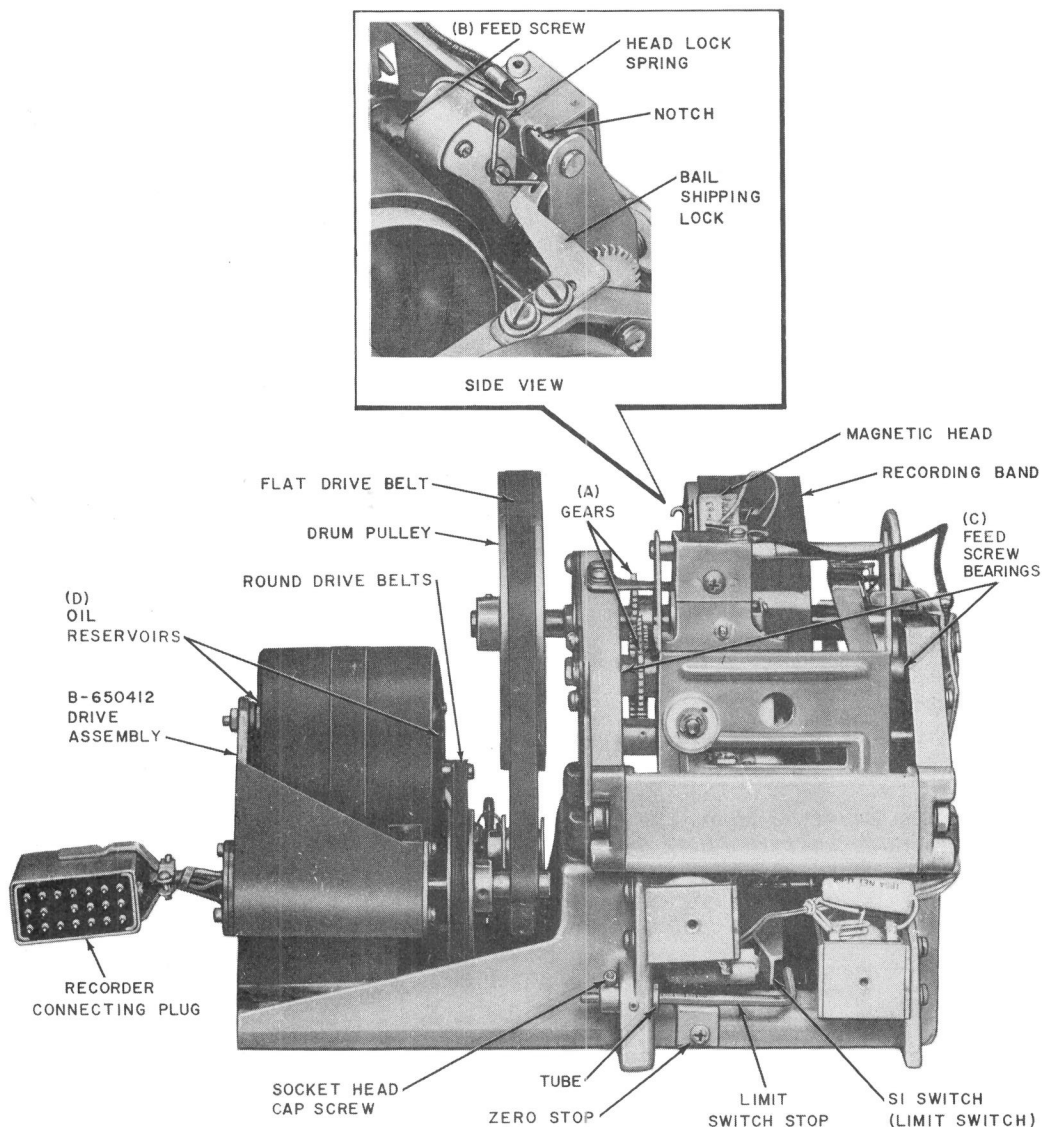

Fig. 6—KS-16765, List 3 Recorder, Front View
2.09 The KS-16765, List 3 recorder (Fig. 6 and 7) is the announcement recording mechanism. It consists of a magnetic record-reproduce head, an apparatus for tracking and switching, and a magnetic recording band on a drum. The drum is revolved by the B-650412 drive assembly (Fig. 10)
2.12 Facilities are provided for limiting the maximum recording interval to any portion of the total capacity. This is accomplished by adjustment of the limit switch stop (Fig. 6).